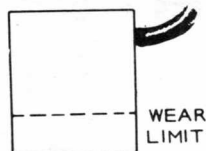

FIGURE 50. BRUSH WEAR LIMIT
**Brush Inspection:** If brushes are worn shorter than 1/4 inch (6.35 mm), replace them. Check to see that brushes move smoothly in the brush holders. See Figure 50.